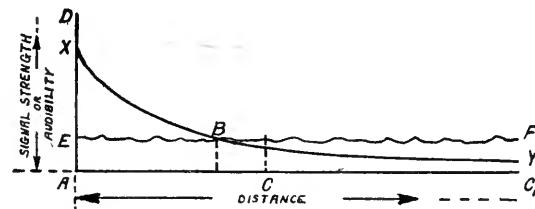

FIG. 1
Here, the static level is the same as in Fig. 1. But the broadcast signal is weakened in its passage eastward, due to conditions between the Pacific (A), and the Atlantic (C) Coasts, with the result that it sinks below the static level before reaching New York (C) and no receiver now known can receive it
This can well be illustrated by the diagram, Fig. 1. Let the two points, A and C, represent the Pacific Coast and New York, respectively, with the intervening distance, indicated by the line between them. Let the height above the line AC, measured along the line AD, represent signal strength or audibility. The irregular line, EF represents the static level that existed on the first night of reception. The line XY represents the radio signal that is sent out from the Pacific Coast as it travels toward the East. It will be seen that the farther it goes in the easterly direction, the
Now let us turn to Fig. 2. Here the same conditions prevail, with one exception—the signal-static ratio is changed. It can be seen that we have two variables here, both of which lie between fairly wide limits—that is, the actual signal strength itself represented as the distance of the line XY above the line AC and the strength of the static level EF (which is shown at the same height above AC in both Fig. 1 and Fig. 2, indicating it to be the same strength on these two nights). However, in Fig. 2, the line XY is seen to pass under the line EF before it reaches New York. In other words, due to poor conditions prevailing between the points A and C, the radio signal is not carrying as well the second night as it did the first, falling off more rapidly. And after it has passed beyond the point B,